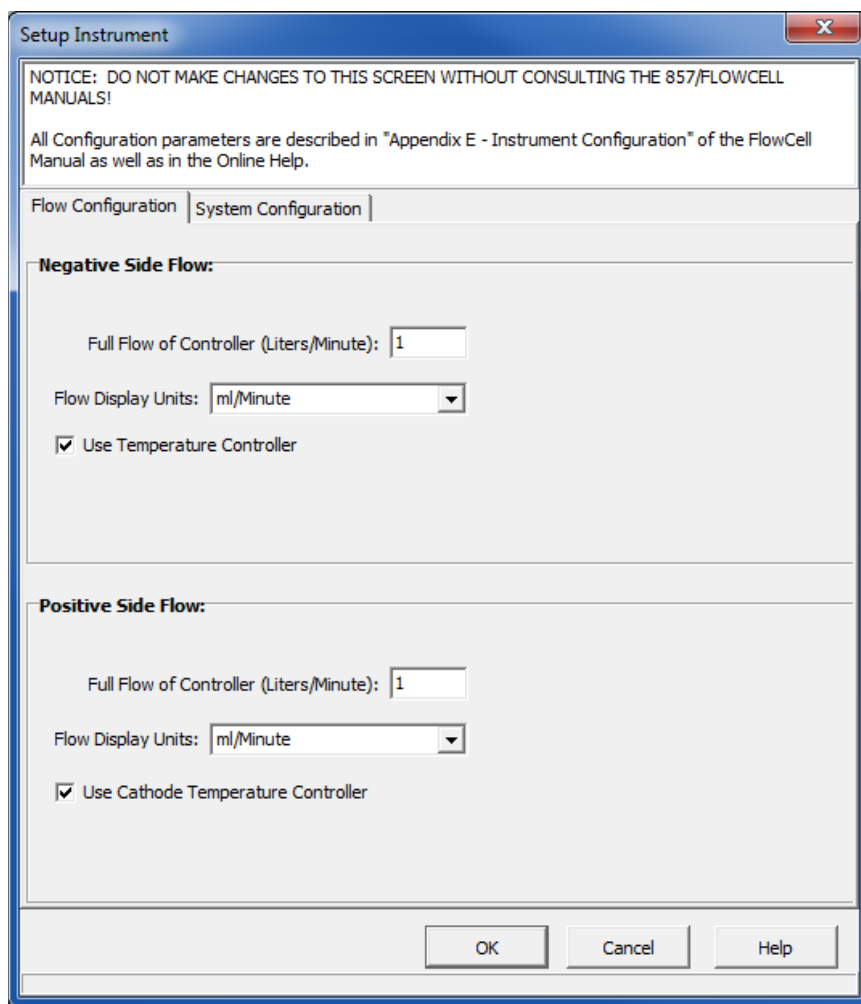

Figure 1 – Flow Configuration menu in *FlowCell* software.
- iii. In the Flow Configuration menu, enter the Full Flow of the Controller for the negative and positive side pumps - Figure 1.